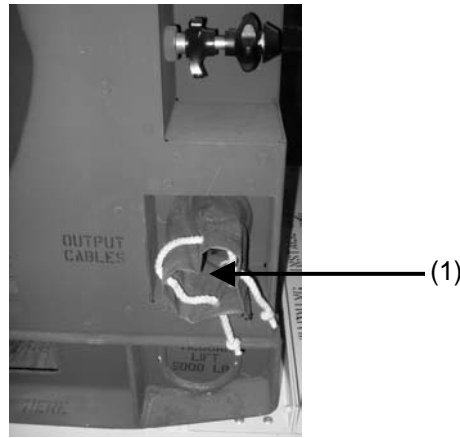
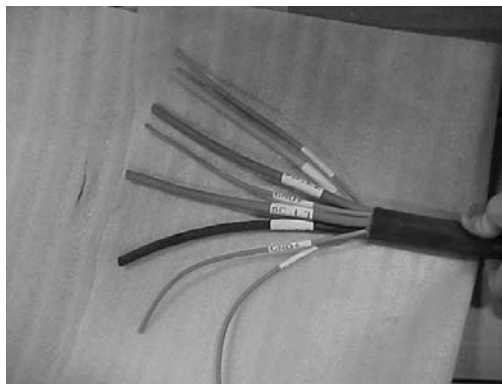

Figure 4-30. Waterproof bag in generator terminal compartment.
Figure 4-31. Wire end of main generator cable.
5. Loosen lug nut on ground (GND) position (5) and remove the bundle of four green wires.
6. Loosen lug nut on L3 position (2) and remove orange wire.
7. Loosen lug nut on L2 position (3) and remove red wire.
8. Loosen lug nut on L1 position (4) and remove black wire.
9. Thread cable assembly back through waterproof bag (1) in generator terminal compartment. (Fig. 4-31)
3. Thread cable assembly (Fig. 4-31) through waterproof bag (1) (Fig. 4-30) into generator terminal compartment.